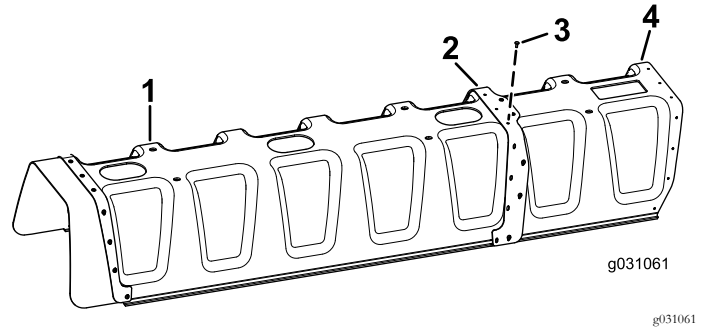

Figure 6
2. Install 11 pop rivets (3/16 x 1/2 inch) and washers (3/16 inch) to the reinforcement plate, attaching 11-nozzle cover to the 12-nozzle cover (Figure 6).